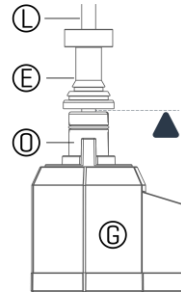

Figure 6
For the use with GEWA factory Trigger Banks the Top Cymbal needs to be mounted high enough, so that the Clutch Bumper (E) does not press down the controller shaft (O). See *Figure 6* for comparison.
- 3 After step 2, the Clutch Bumper (E) should be touching the carriage Hi-Hat Controller (O), without pressing the shaft down (see *Figure 6*). This corresponds to a minimum cymbal spacing (S) of approximately 19 mm (¾").